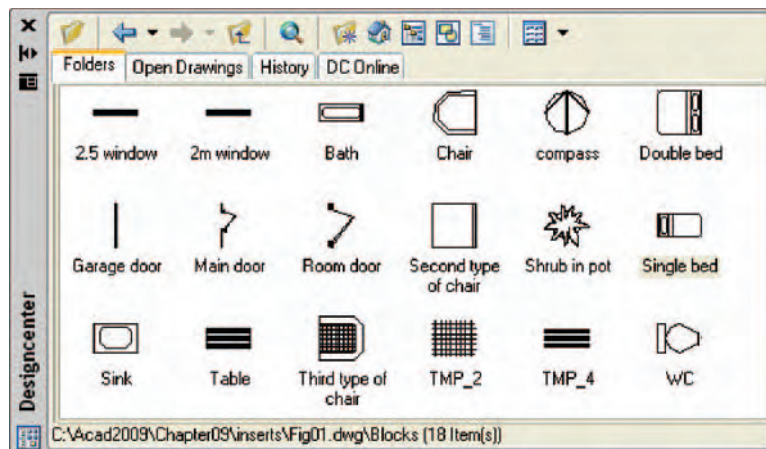

Fig. 9.12 The results of a click on **Tree View Toggle**
- **Tree View Toggle** – changes from showing two areas – a **Folder List** and icons of the blocks within a file and icons of the blocks within a file – to a single area showing the block icons (Fig. 9.12).